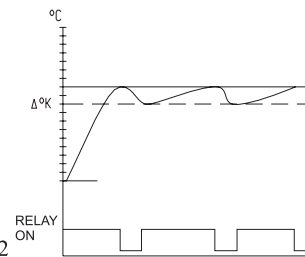

Fig. 2
Turn the potentiometer ④ clockwise for larger hysteresis. Minimum position = 1K, Maximum position = 10K, (see Fig. 2).